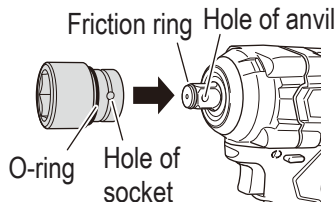

Fig. 10
(1) Slide the O-ring out of the groove, then align the hole of the socket with the hole of the anvil and insert the anvil into the socket. (**Fig. 10**)